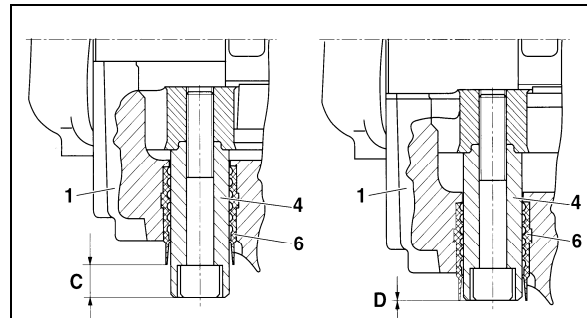

FIGURE 31: BRAKE PAD CHECK 12117
The pad thickness can be seen but would require removal of the tire and rim. An indicator of the pad wear condition is available by inspecting the floating pin location in relation to the rubber bushing as shown in figure 31. When pads are in new thickness condition, the pin will be exposed (C) 19 mm (3/4"). When the pads are worn to replacement conditions, the pin will be nearly flush to the bushing (D) or within 1 mm (3/64") of the edge of the rubber bushing.